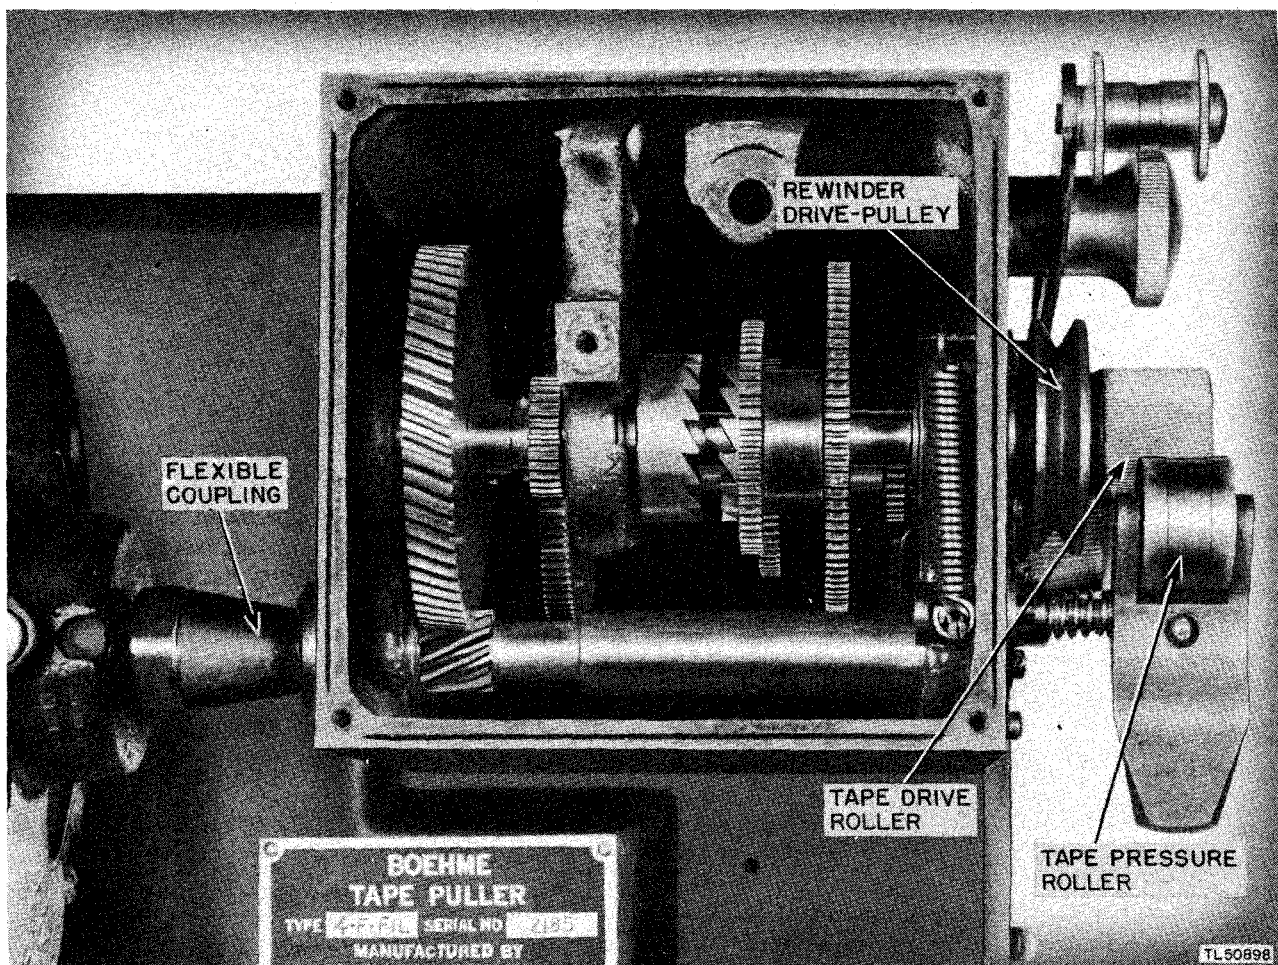

Figure 54. Internal view of tape puller gear box.
b. A gear box (fig. 54) containing a three-speed gear shift coupled to the drive roller which moves the paper tape.